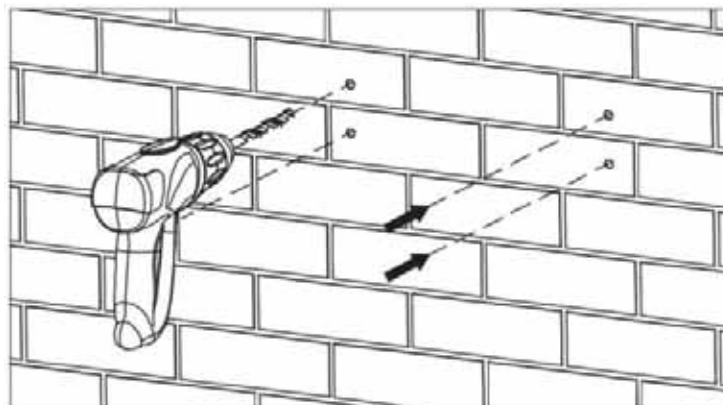

Figure 4.5 Drilling
- (2) Drill 4 installation holes on the wall with electric drill. As shown in Figure 4.5.